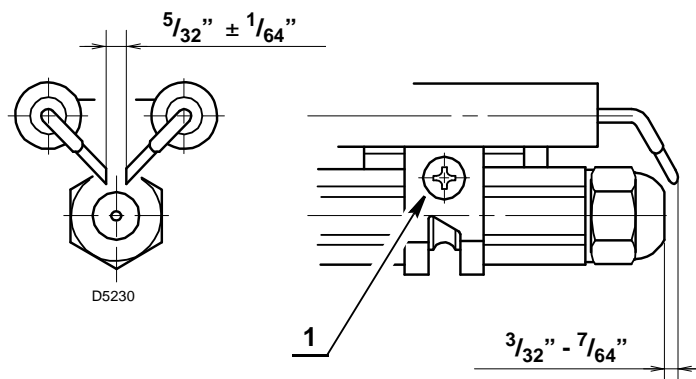

Fig. 18
- loosen the screw 1)(Fig. 18) and move the electrodes ahead;